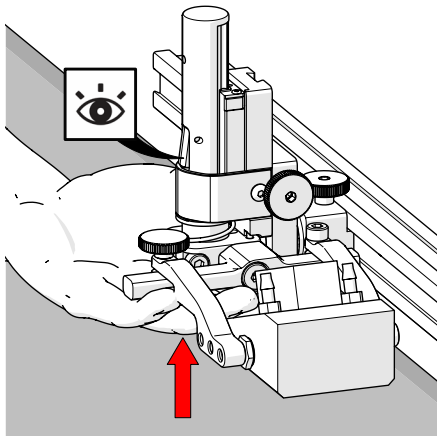
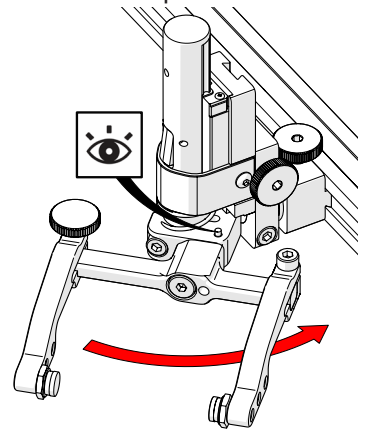

Fig. 177 - Latch probe holder
Fig. 183 - Stop post locates 90°
1. Ensure the probe holder is in the latched, upper position. Lift the probe holder until the latch is fully exposed and snaps out to lock (Fig. 177).
1. Ensure the probe holder is in latched, upper position (Fig. 177).
To return the transverse adjustment to neutral (90°). The probe holder must be in the latched, upper position (*Fig. 177*). Rotate the yoke until the stop post contacts the base of the probe holder (*Fig. 183*). Then tighten the transverse adjustment screw.
1. Ensure the probe holder is in latched, upper position (*Fig. 177*).